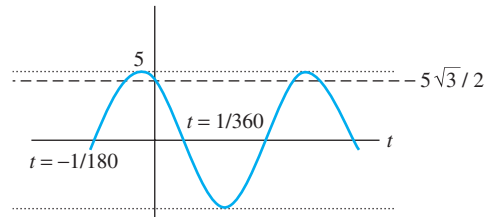

FIGURE 6.6 Figure for Example 6.3, part (c).
- c. $v(t)$ is sketched in Figure 6.6. Note that the point that the signal crosses the x -axis is the point at which the voltage is zero. Finding these points helps to sketch the sinusoid. Equating the voltage to zero:
This equation can be used to find the zero (x-axis) crossing points. For example, for $k = -1$, $t = -1/180$ as shown in the figure. Note that $\pi = 180^\circ$, which can be used to simplify the calculations. In addition, for $k = 0$, $t = 1/360$. The cross section with the y-axis also helps to sketch Figure 6.6. This point occurs when time is set $t = 0$. Note that $\cos 30^\circ = \sqrt{3}/2$; thus, at this point, the amplitude is $5\sqrt{3}/2$, as shown in Figure 6.6 using a dashed line.